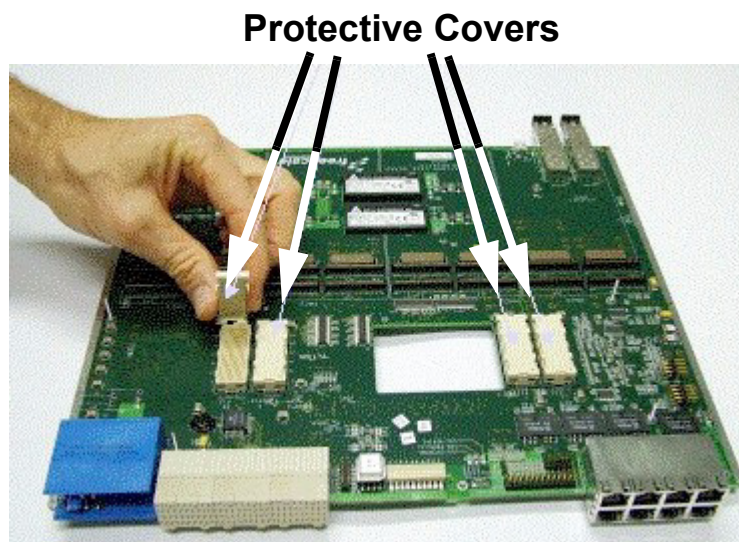

Figure 2-4. Remove Protective Covers from 300-pin connectors
2. Remove protective covers from the 300-pin connectors on the PIB board (see Figure 2-4).